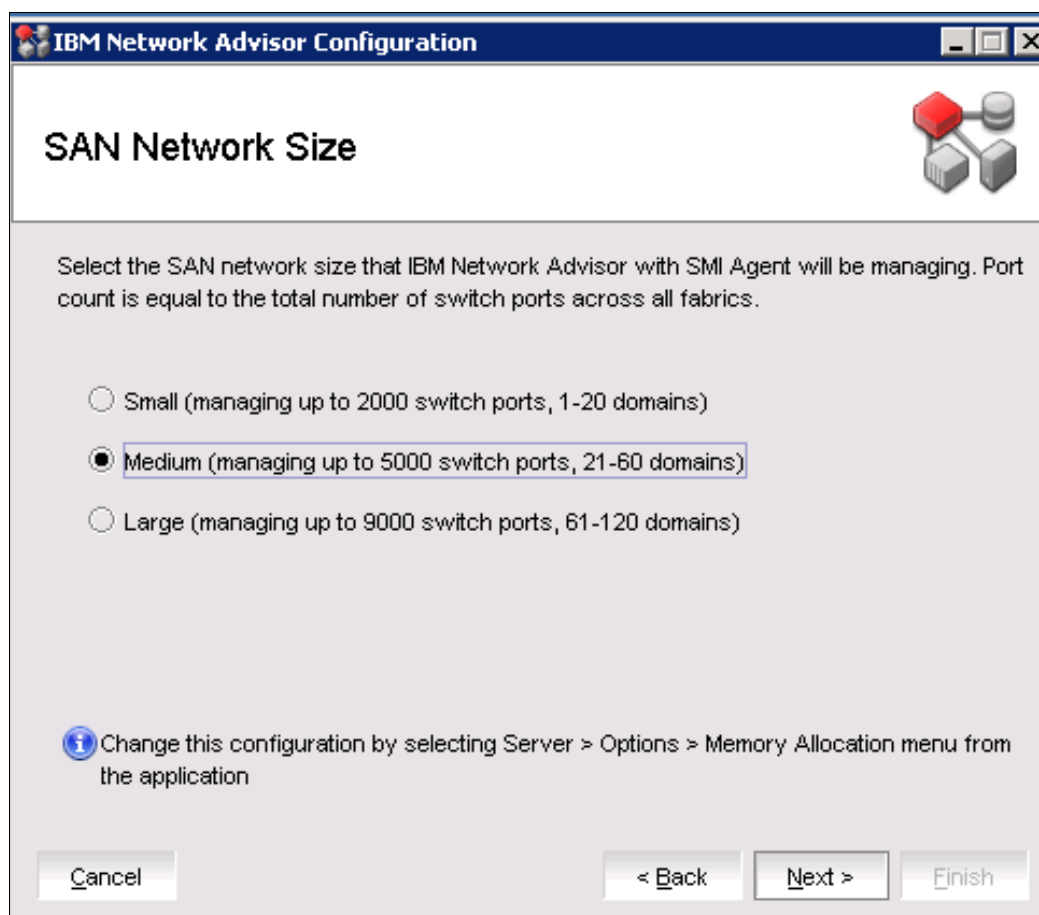

Figure 3-17 SAN Network Size window
17. The SAN Network Size window opens and prompts you to configure the SAN network, as shown in Figure 3-17. Choose the option that best suits your network size and click **Next**.
16. The SAN Network Size window opens and prompts you to configure the SAN network, as shown in Figure 3-17 on page 89. Select the network size and click **Next**.